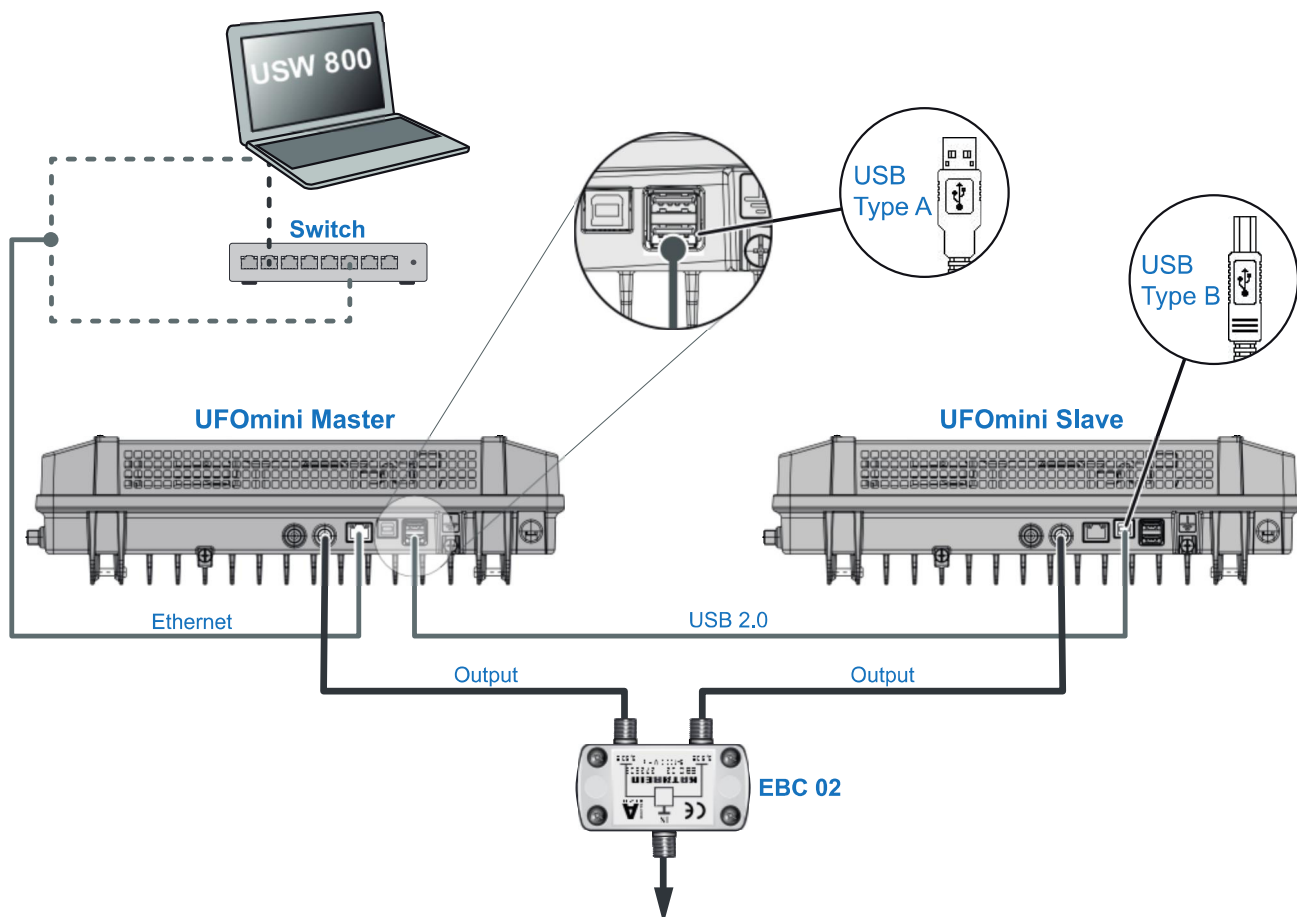

Fig. 4: Cabling
2. Connect an Ethernet cable1) to the RJ45 socket on the computer, if required, by means of a switch or router; see Fig. 4, P. 5. The head-end will now function as the *master*.
3. If a second head-end is present: Connect the second head-end to the first head-end using a USB 2.0 cable (Fig. 4). In this case: